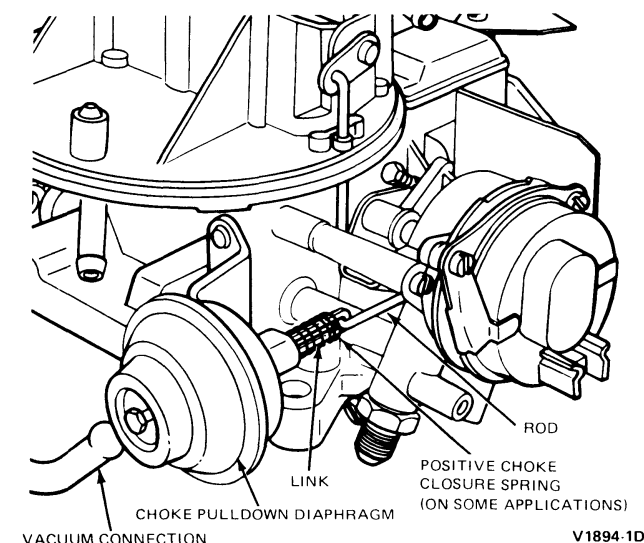

FIG. 28 Choke Pulldown Diaphragm Assembly
- Rotate diaphragm assembly to disengage choke pulldown rod (Fig. 28). For modulated systems, remove (and retain) E-chip from choke pulldown rod.